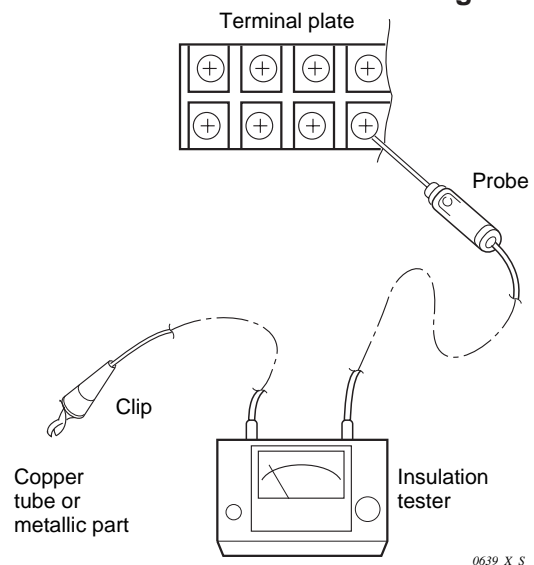

Fig. 40
Clamp an aluminum plate fin or copper tube with the lead clip of the insulation resistance tester and measure the resistance by placing a probe on high voltage terminal on the terminal plate (Fig. 40)
③ Outdoor Unit (SPW-C253GH5)
Clamp a metallic part of the unit with the lead clip of the insulation resistance tester and measure the resistance by placing a probe on ① and then ② on the 8 or 6P terminal plate. (Fig. 40)
(Fig. 40)
③ Outdoor Unit (SPW-C253GH8, SPW-C363GH8, SPW-C483GH8)
Clamp a metallic part of the unit with the lead clip of the insulation resistance tester and measure the resistance by placing a probe on ⑤ and then ⑥, and then ⑦ on the 8P terminal plate. (Fig. 40)